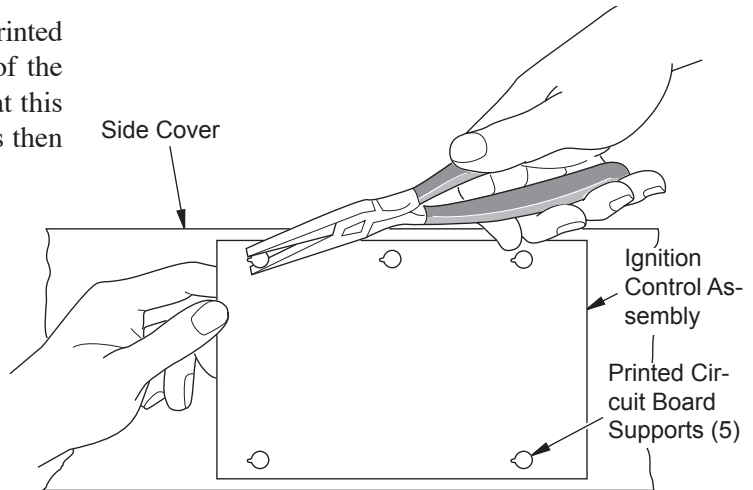

Figure 2 - Removing Circuit Board
3. Using needle nose pliers, squeeze the tab on the printed circuit board support and lift up on the edge of the ignition control assembly (see Figure 2). Repeat this for the other four printed circuit board supports then remove the assembly.